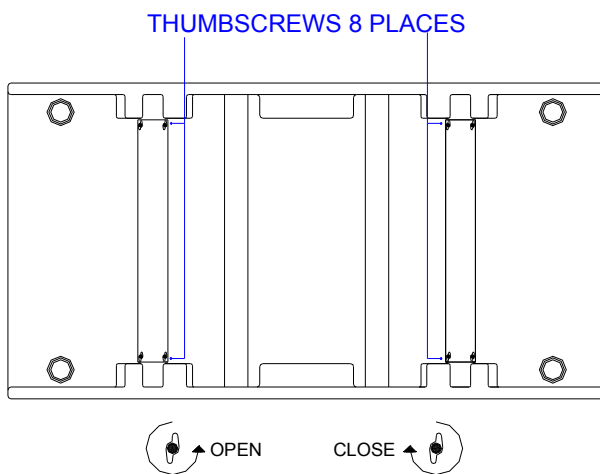

Figure 5
- a. Remove the 4 thumb screws from the topside of the exchanger unit (Figure 5).